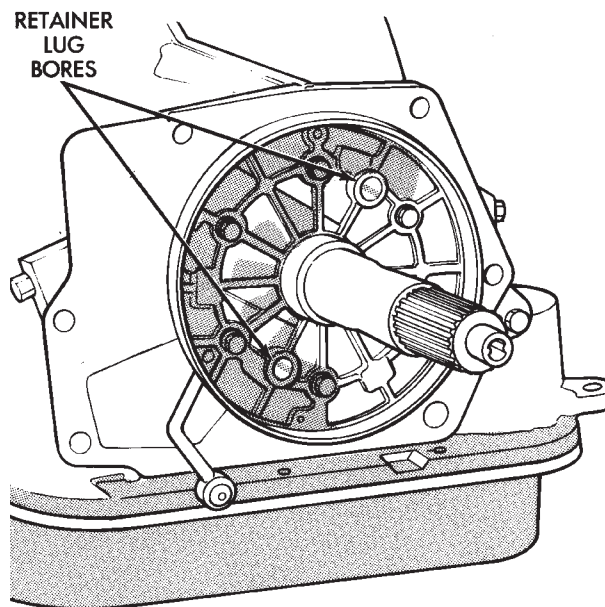

Fig. 152 Overdrive Piston Alignment
(37) Install new seals on overdrive piston. Then lubricate seals with transmission fluid, Ru-Glyde, Door-Eze or petroleum jelly.
(38) Install overdrive piston in retainer. **Align locating lugs on piston in locating bores in retainer** (Fig. 152). Use thin plastic strip or feeler gauge to help guide piston outer seal into retainer.